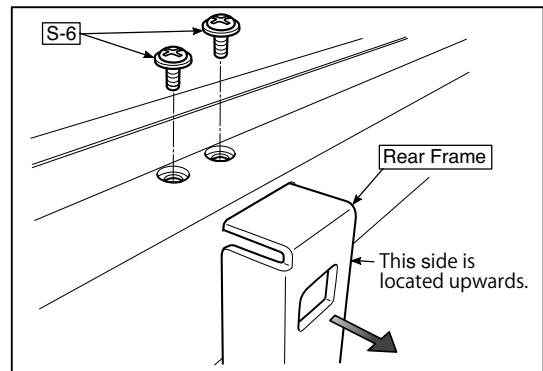

Fig.22
### 9) Remove the Rear Frame. (See Fig. 22)
1. Remove the "S-6" screws shown in the figure 22 and then remove the Rear Frame (two).